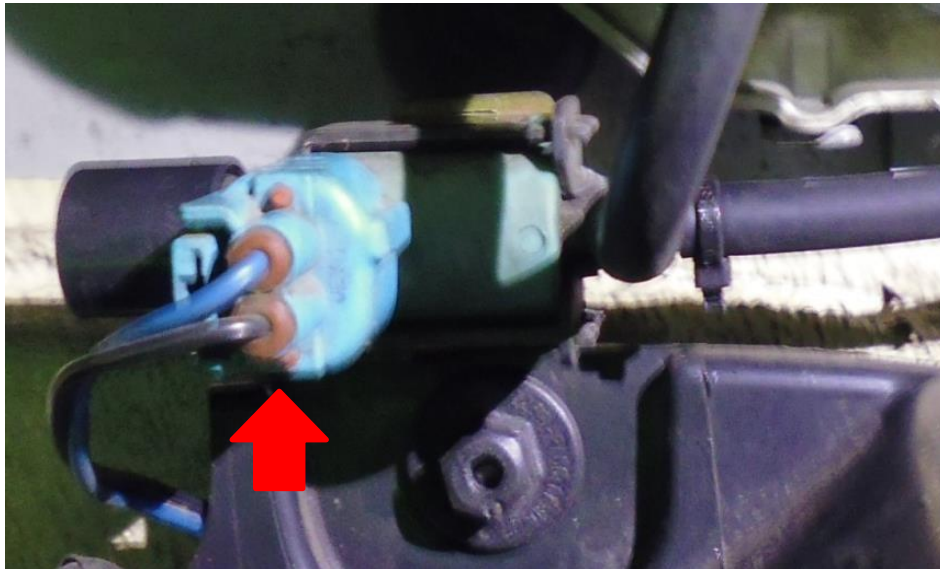

Figure 2-3
4. Connect the Solenoid valve connection cable to the bottom of the vehicle and connect the control box. (Figure 2-3)